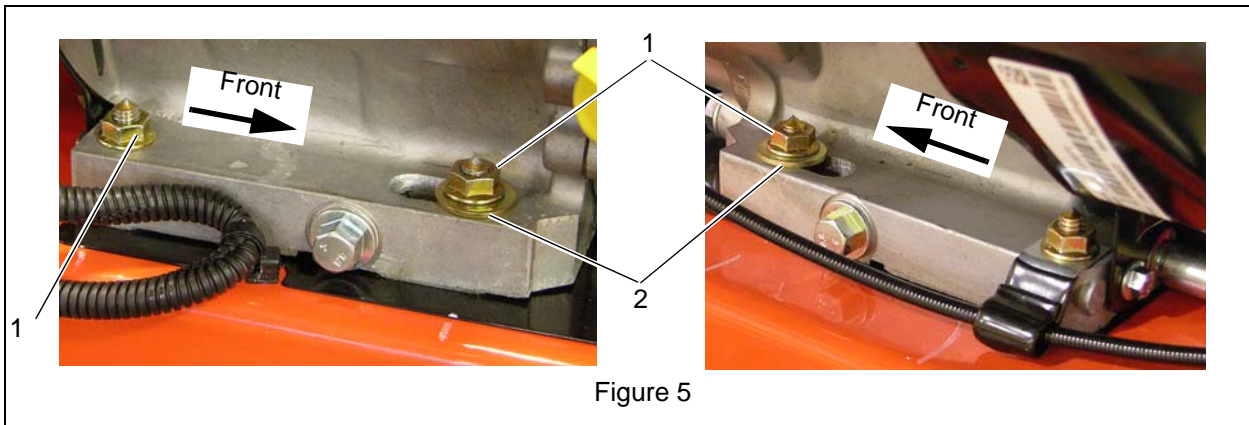

Figure 5
4. Install two 5/16 locking top flange nuts (Item 1) on rear engine mounting studs. Do not fully tighten (Figure 5).
5. Install two 3/8 flat washers (Item 2) and two 5/16 locking top flange nuts (Item 1) on front engine mounting studs (Figure 5).